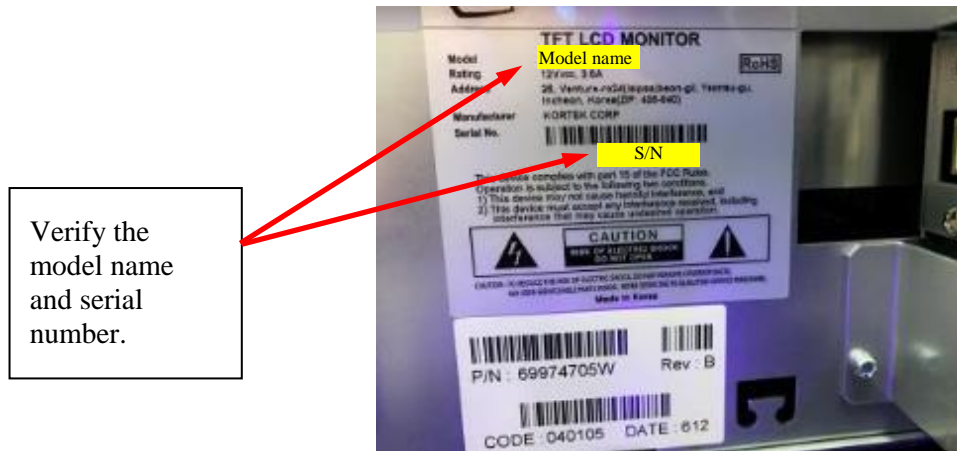

Figure 1
1. Open the machine main door, power off the machine, and locate the monitor model name and serial number. Verify the affected monitor model name and serial number. See Figure 1.